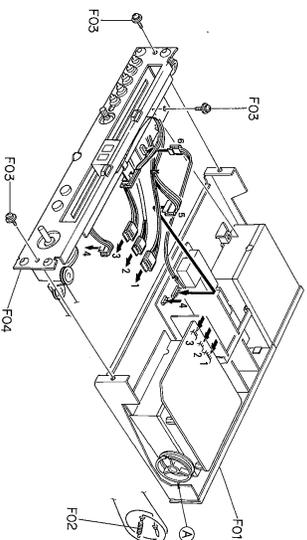
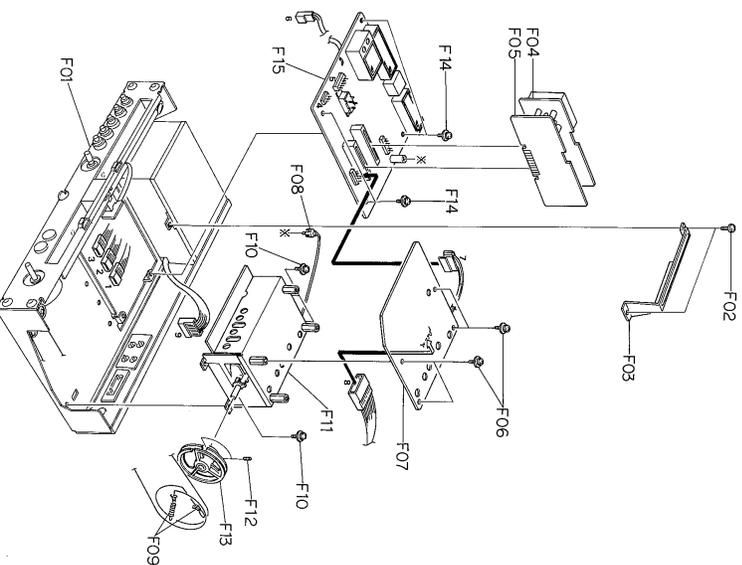
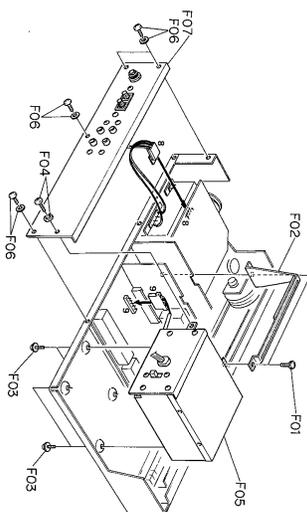

Fig. 3.2
Fig. 3.3
Fig. 3.4
- Refer to Fig. 3.2.
- Remove Top Cover referring to above item 3.1.
- Refer to Fig. 3.3.
- Remove Top Cover and Bottom Cover referring to above item 3.1.
- Refer to Fig. 3.4.